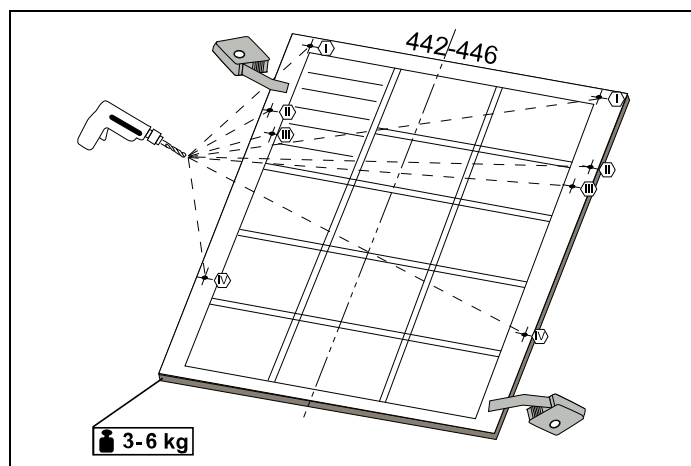

Fig. 19
As shown in Fig. 19, you must measure the height and depth of the cabinetry to determine the dimensions of the outer door.
- 2) As shown in Fig. 19, the screw hole is opened to the outer door from the points marked on the installation plan. Diameter of Drill Bit: 2 mm (5/64") Depth of Drill Bit: 12 mm (15/32")